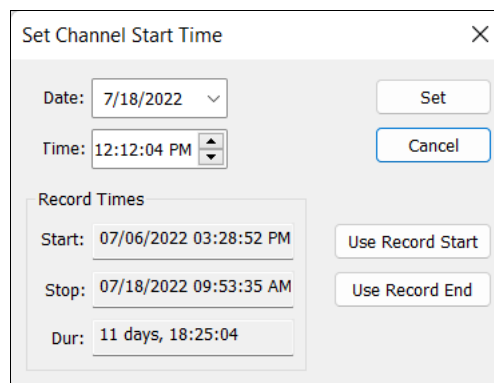

Figure 132: Set Channel Start Time Window
2. A window will appear, allowing the selected field (Start, Cursor, or Stop) to be edited. The “Set Channel Start Time” is shown in Figure 132 as an example.